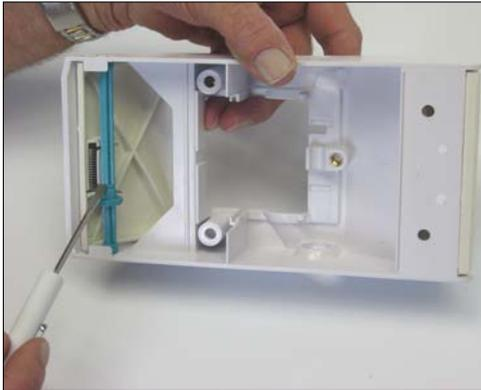
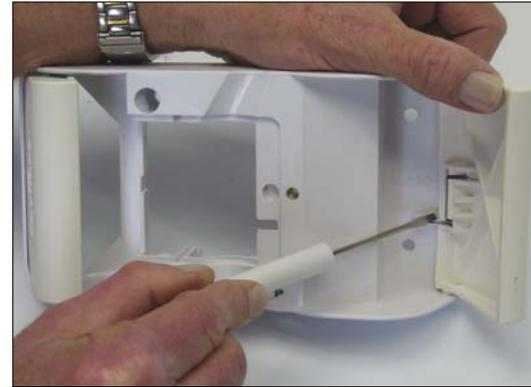

Figure 30
Figure 31
1. Prior to removal, note the position of flap springs for correct replacement. Rear flap (fig 30) Front flap (fig 31).